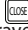

**Figure 9**
- 2) Press scroll (DN) until the display reads "LIMIT OVERRUN>(0-9)." **Fig. 9.**